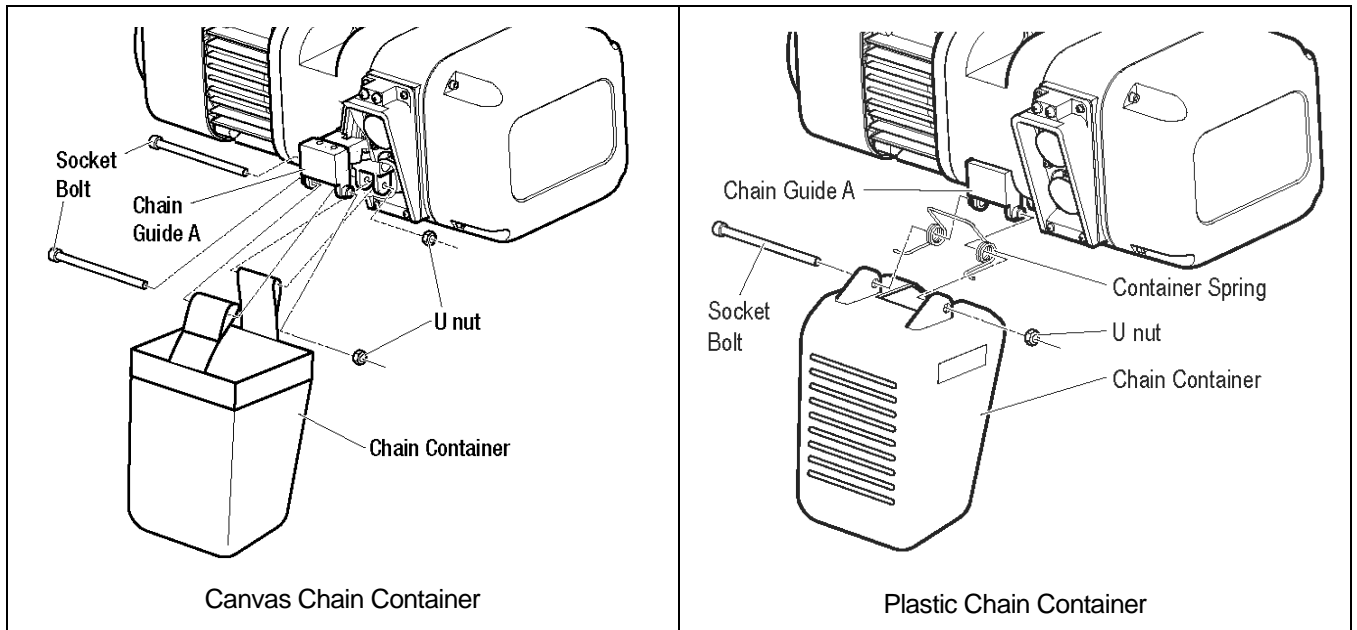

Figure 3-4 Attachment of Chain Container to Hoist Body
- 3.2.2 When the hoist is used without a chain container, the free end of the chain is attached to the hoist body as shown in Figure 3-4. Connect the no load end of the chain to Chain Guide A with the End Suspender provided. For 5 ton hoist, connect the no load end of the chain directly to Chain Guide A if Chain Guide A is notched to accept the chain. Make sure the chain remains free of twists and the chain Stopper is installed on the correct link. Refer to Table 3-1 for proper placement of Stopper.
3.2.3 **Optional Canvas or Plastic Chain Container** - When the optional canvas chain container is selected, fully unfold and install it on the hoist body as shown in Figure 3-4. When installing the optional plastic chain container, pass the socket bolt through the holes in this order: the chain container, the bucket spring, the chain guide A, the bucket spring, and the chain container. Be sure to mount the bucket spring in correct direction as shown in Figure 3-4. The free end of the chain is not attached to the hoist body and the chain stopper is installed on the third link from the free end. To place the chain into the chain container, feed the free end of the chain into the container. Take care to avoid twisting or tangling the chain. NEVER put all the chain into the container at once. Lumped or twisted chain may activate the down limit switch and stop the hoist during lowering.